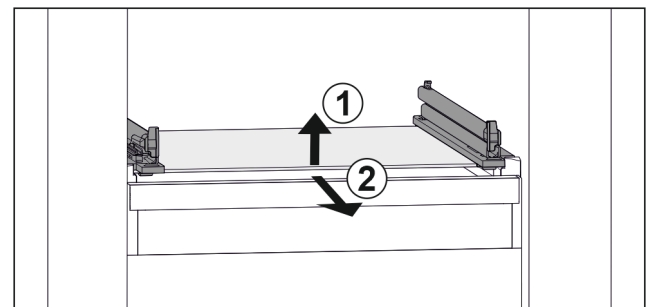

Fig. 84 Example illustration of glass shelf
- ▶ Lift glass shelf at the front. *Fig. 84 (1)*
- ▶ Take out glass shelf to the front. *Fig. 84 (2)*